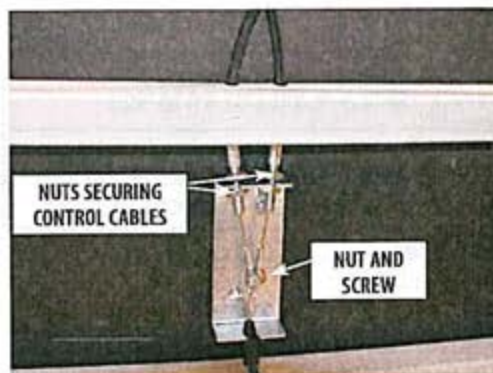

FIGURE 5.13
2. Using a flathead screwdriver and a 5/16" combination wrench, remove the screw and the nut, securing the three eyelets connecting the Controls and the single Cable going to the Spring. Refer to Figure 5.13.